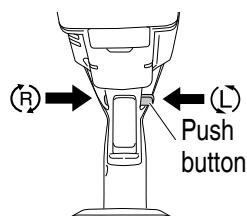

Fig. 11
6. Confirm the direction of bit rotation (**Fig. 11**)
The bit rotates clockwise (viewed from the rear side) by pushing the R-side of the push button. (**Fig. 11**)